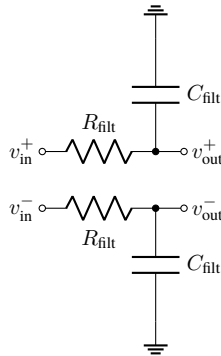

Figure 13: ADC Input filter Equivalent Circuit.
Figure 13 shows ADC input filter equivalent circuit. For an 18 bit, the error of a full scale range (FS) step in a single-pole RC filter after acquisition time t_{ACQ} is $\exp\left(-\frac{t_{\text{ACQ}}}{R_{\text{filt}}C_{\text{filt}}}\right)$ FS and a half LSB is approximately 2^{-19} FS. Then we have